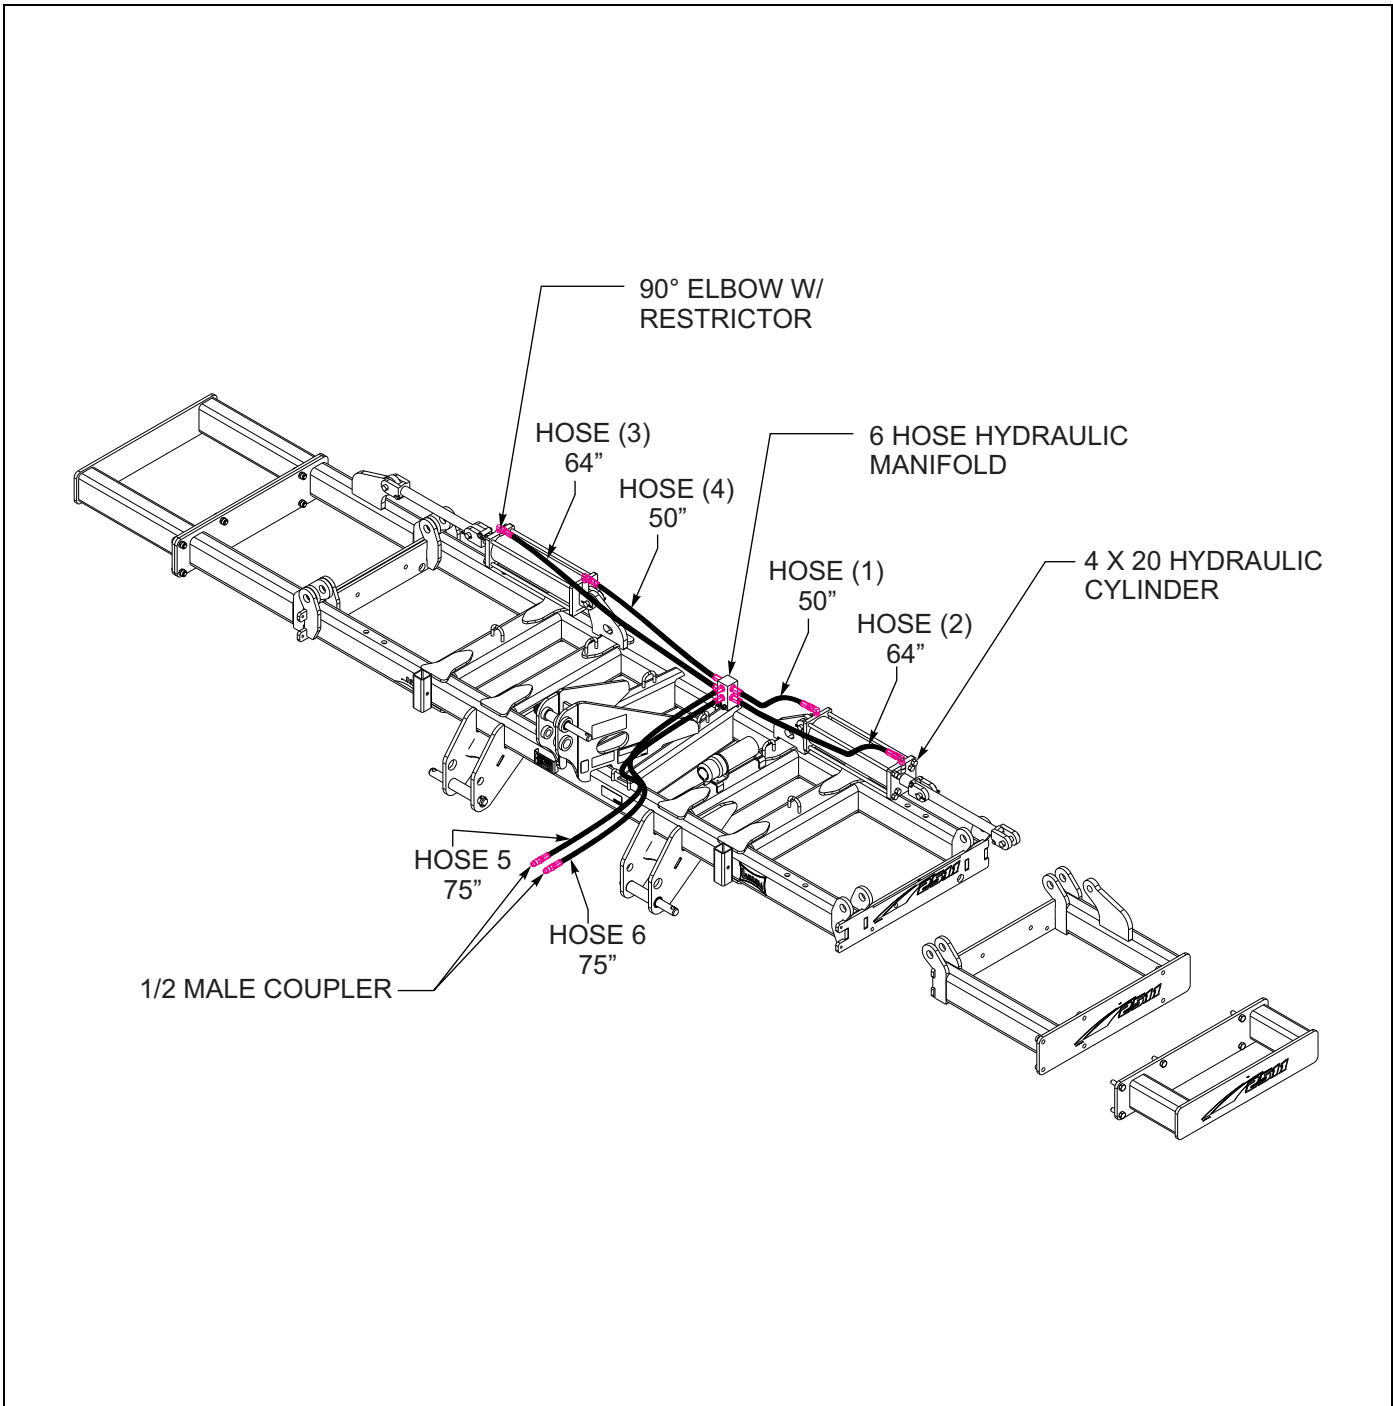

Figure 3-16: Hydraulic Fold Installation
2. Install 90° elbow with restrictor into each port of hydraulic cylinders (**See Figure 3-16.**)